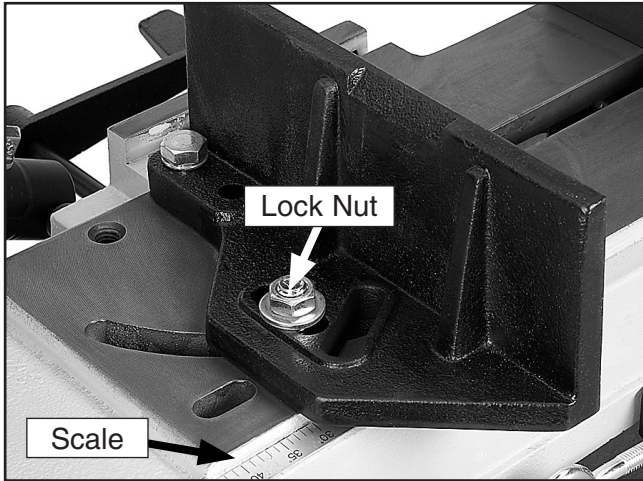

Figure 23. Vise angle adjustments.
2. Use the scale to set your angle (see **Figure 23**).